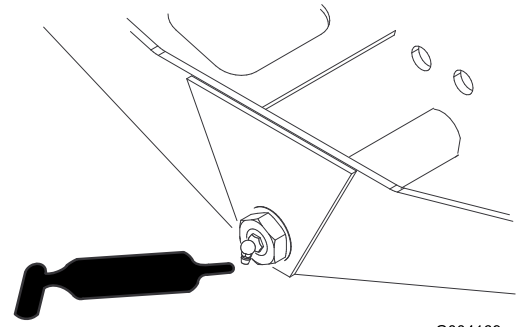

Figure 71
- Axle-steering pivot (1) (Figure 71)